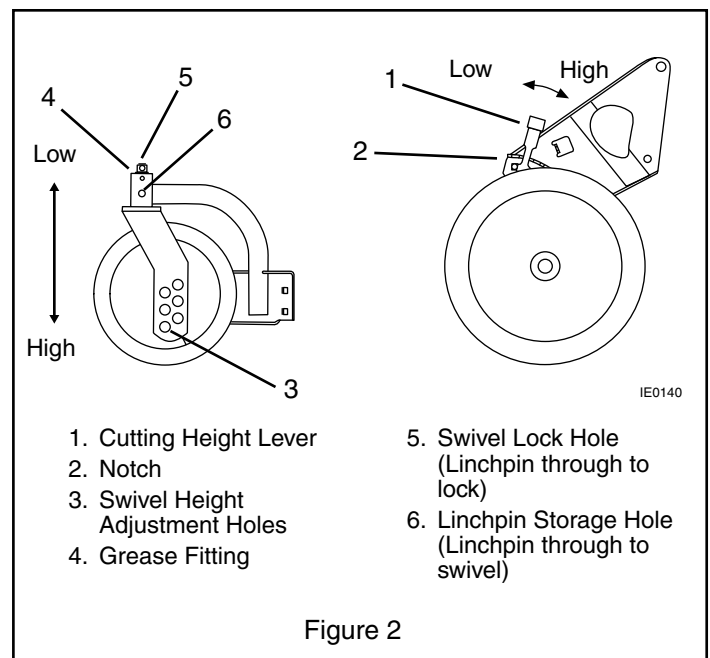

Figure 2
9. To change front wheel cutting height, insert clevis pin, into the holes that corresponds to desired cutting height (Figure 2).
10. To change rear wheel cutting height, move cutting height levers one notch at a time until desired cutting height is obtained (Figure 2).